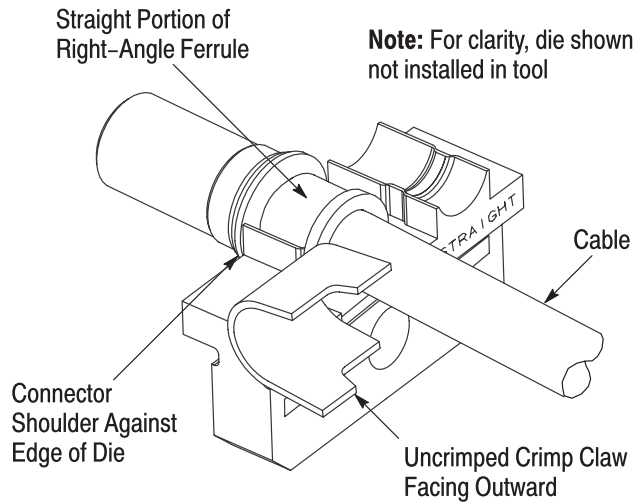

Figure 3
2. Place the ferrule in the appropriate nest of the anvil die (marked "90°" for right-angle ferrule and "straight" for straight ferrule) so that the shoulder of the connector butts against the edge of the die and the crimp claw is facing outward. See Figure 3.
- Modified illustrations of dies and Figure 3